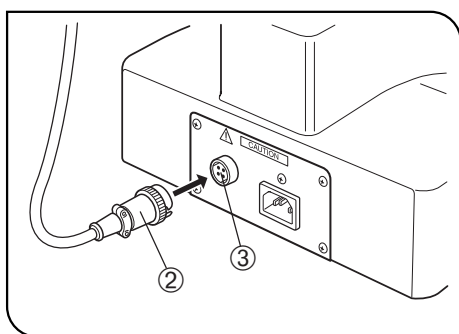

Fig. 49
1. Connect the plug ② of the lamp housing cord to the connector ③ on the rear of the microscope base. (Fig. 49)